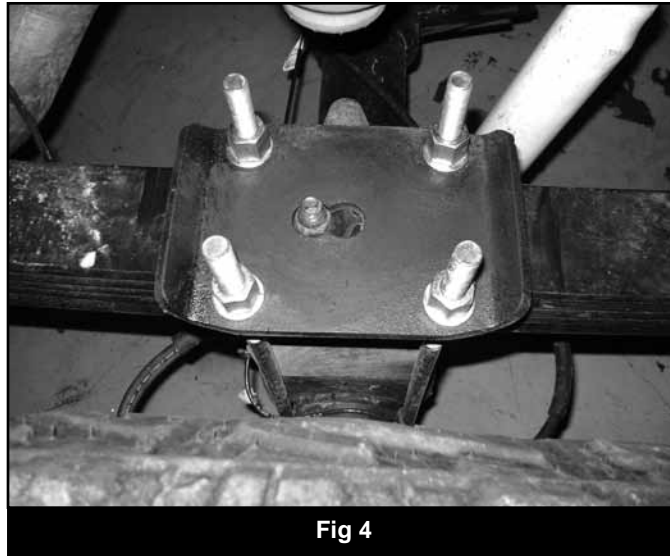

Fig 4
12. Repeat block installation of the driver's side. Take care not to over extend the brake lines. **Note:** *The parking brake cable bracket will need to be removed from the spring center pin.* (Fig 4)